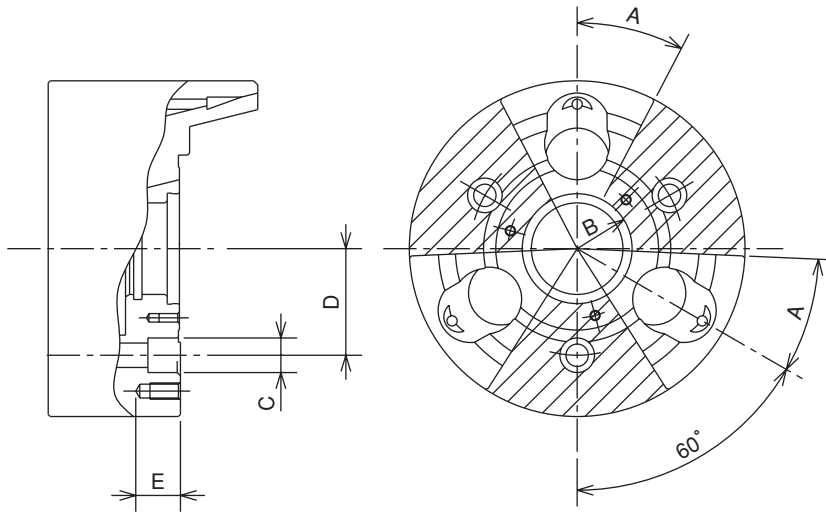

Fig. 7
- In the case of attaching the locator and the jig on the chuck body surface, tap or drill a hole in the additional process range specified in Fig.7.